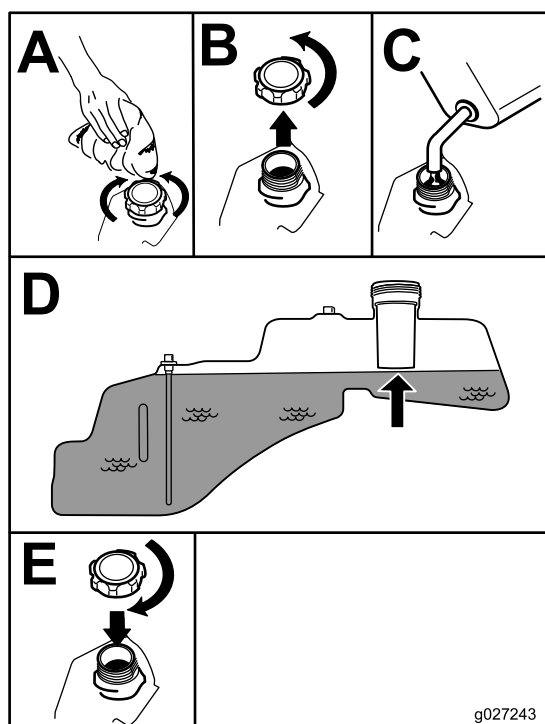

Figure 7
4. Fill the fuel tank to the bottom of the filler neck (Figure 7).